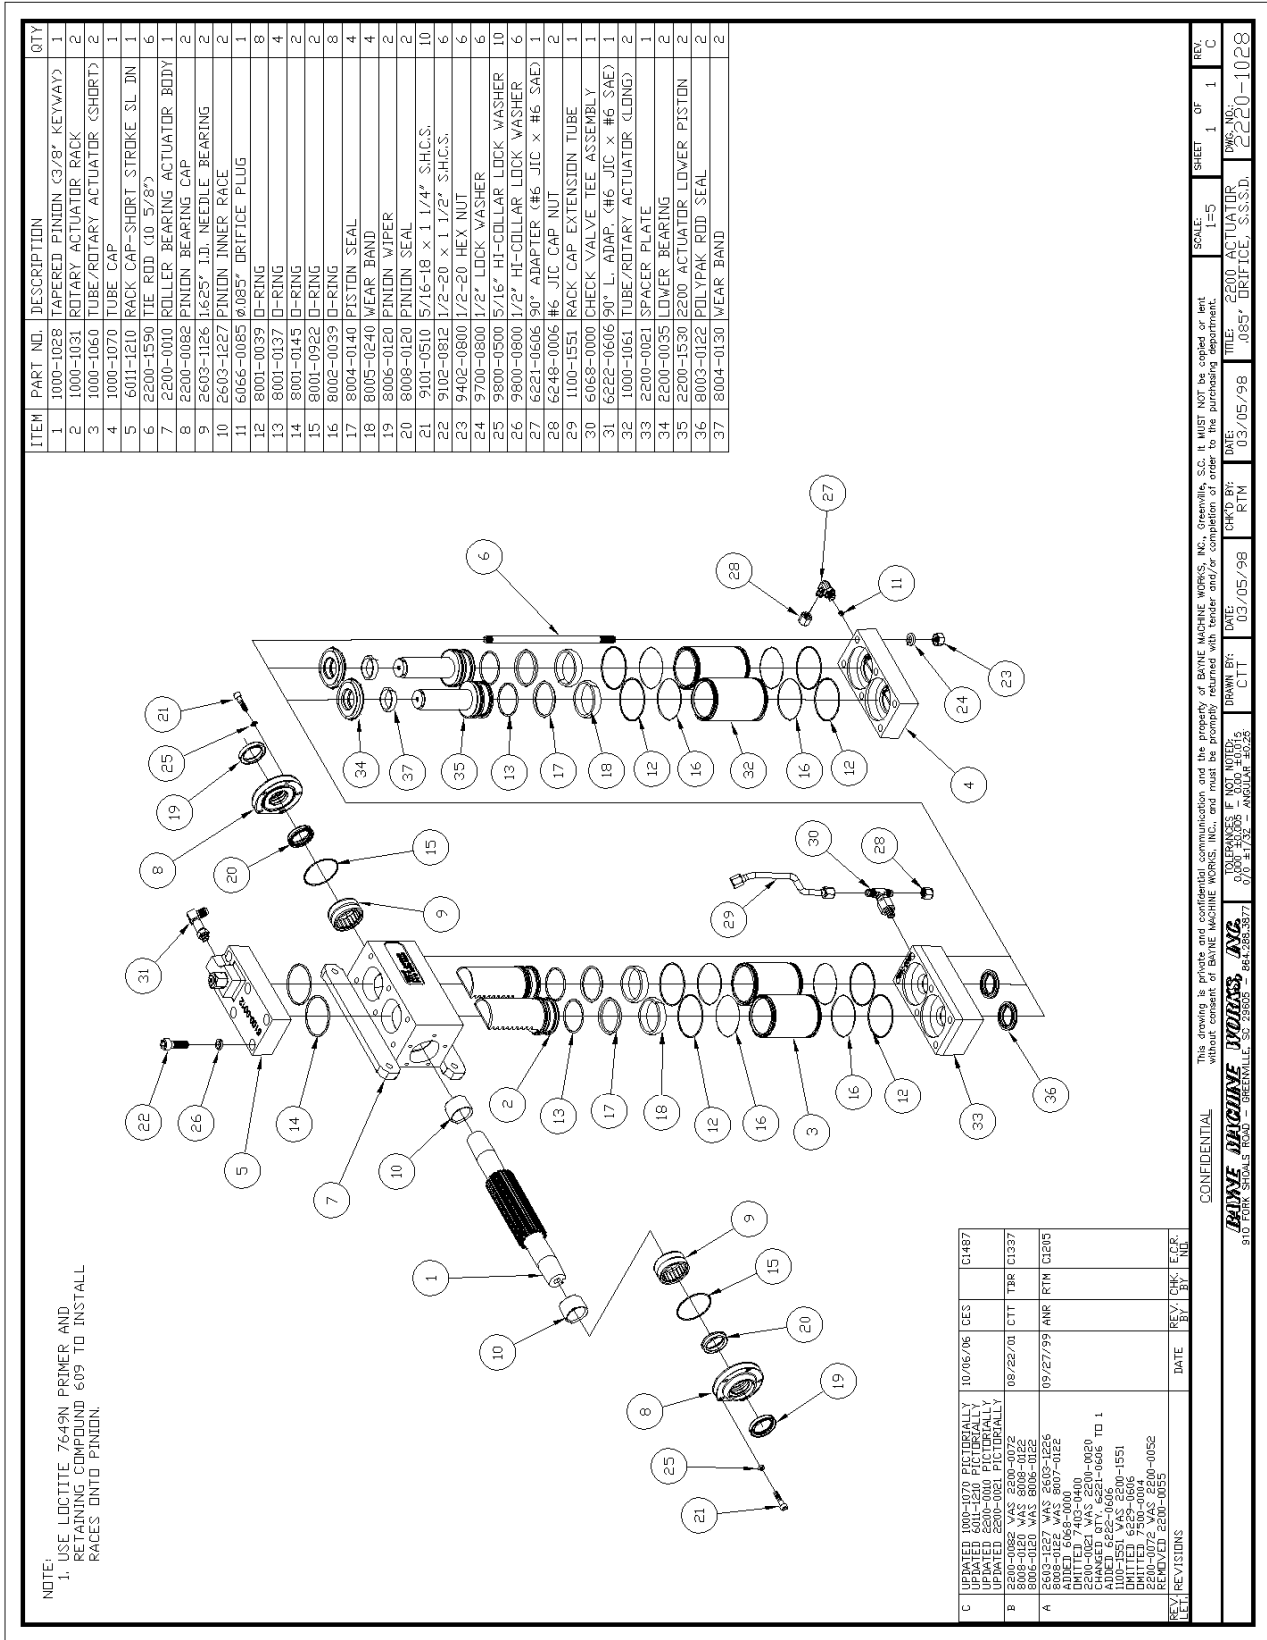

figure A-17
Before starting the assembly of the Rotary Actuator, refer to the exploded parts drawing and parts list (fig. A-17 found at the end of these instructions) to familiarize yourself with the individual components. Prepare a clean surface, in an area free of blowing dust and contaminants in which to assemble the Rotary Actuator. Be sure that all parts are thoroughly clean and dry before starting assembly.
3. Install the tube seal (12) (fig. A-3) and “square” tube seal backup (16) on each end of the “shorter” actuator tubes (3) (fig. A-17). Be sure that the “square” tube seal backup ring is toward the inside of the tubes at both ends as shown. Press all rings firmly into the grooves. Repeat this procedure for the “longer” lower piston tubes (32) (fig. A-17).
6. Coat the head portion of the racks (2) (fig. A-17) with STP Oil Treatment as shown in figure A-6. Install the racks, head portion up with the teeth facing the flanges of the actuator body, into the dual set of bores in the body. Simultaneously slide the racks into the bores so that the racks mesh with the pinion in the same position. Rotate the pinion shaft to engage the racks into pinion.
- Coat one end of the “shorter” actuator tubes (3) (fig. A-17) around the seal area with STP Oil Treatment as shown in figure A-8. Using a rubber mallet, drive the coated end of the tube onto the exposed rack until the tube end seats in the actuator body, making sure that the seals remain in place as the tube enters the counter-bore. Repeat this procedure for the other side.
14. Coat one end of the “longer” lower piston tubes (32) (fig. A-17) around the seal area with STP Oil Treatment as shown in figure A-8. Using a rubber mallet, drive the coated end of the tube into the exposed bore of the spacer plate until the tube end seats against the lower bearing, making sure that the seals remain in place as the tube enters the bore. Repeat this procedure for the other side.
16. Install the lower pistons (35) (fig. A-17) head portion up, into the lower bearings and lower piston tubes as shown in figure A-17. Tap the lower pistons using a rubber mallet until they stop against the racks.
17. Install the check valve tee assembly (30) (fig. A-17) into each side of the spacer plate.
18. Install the six tie rod studs (6) (fig. A-17) by screwing the short threaded end through the spacer plate and into the actuator body. Hand tighten only at this time (the torque needed will be applied later in the procedure).
19. Place the tube cap (4) (fig. A-17) on the table. Coat the sides of the two bores in the tube cap with STP Oil Treatment. Install the cap over the tubes and rod studs with the oil port positioned to the left as shown in figure A-17. Using a rubber mallet, tap the tube cap over the tubes until the tubes seat in the cap, making sure that the seals remain in place.
20. Install the hex nuts (23) (fig. A-17) and lock washers (24) on the tie rod studs. Torque the nuts to 50 ft-lb. in the sequence shown in figure A-12.
21. Place the rack cap (5) (fig. A-17) bore side up on the table and coat the edge of each bore with STP Oil Treatment. Install the rack cap seals (14) (fig. A-13) in the rack cap.
22. Reposition the actuator on the table mounting flanges down, and the lower tubes facing away from the assembler. Rotate the pinion shaft to allow 1" of the rack to protrude from the top of the actuator body. Install the rack cap with the oil port positioned to the left hand side of the actuator opposite the bottom oil port located in the tube cap as shown in figure A-17. Attach the rack cap to the actuator body using the socket head bolts (22) (fig. A-17) and lock washers (26). Torque the bolts to 90 ft-lb. in the sequence shown in figure A-14.
24. Re-center the actuator pinion in the actuator body by tapping on one end of the shaft with a rubber mallet. Install the roller bearing (9) (fig. A-17), over the pinion shaft and inner race, and into the actuator body. Repeat this procedure for the other bearing.
27. Wrap masking tape or electrical tape around the pinion to cover the edges at the keyway. Slide the bearing cap assembly over the pinion shaft with the seal backup facing toward the actuator body and the flat surface of the flange shown in figure A-16 facing toward the actuator mounting flanges. Press against the bearing cap until the shoulder seats against the actuator body, making sure that the seals remain in place. Install the bearing cap bolts (21) (fig. A-17) and lock washers (25). Hand tighten only at this time. Repeat this procedure for other bearing cap.
29. Install the long 90° fitting (31) (fig. A-17) into the oil port on the side of the rack cap (5). Hand tighten only at this time.
30. Install the rack cap extension tube assembly (29) (fig. A-17) between the long 90° fitting (31) in the rack cap and the check valve tee assembly (30) as shown in figure A-17. Tighten all connections.
31. Install the orifice plug (11) (fig. A-17) into the oil port on the side of the tube cap (4), and install the short 90° fitting (27) into the oil port over the orifice plug as shown in figure A-17. Turn the fitting so that it points down away from the rack cap (5) and back toward the mounting flanges on the actuator body and tighten.
32. Install the cap nuts (28) (fig. A-17) onto the open fittings to prevent contamination of the unit until the hoses are installed.